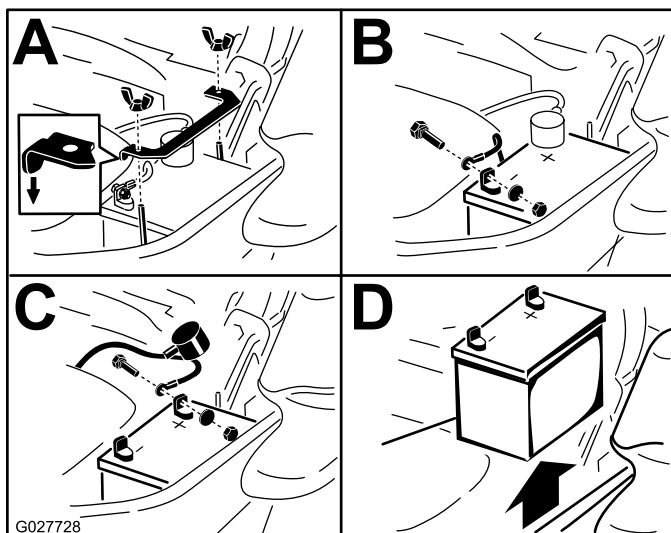

Figure 67
3. Remove the battery as shown in Figure 67.
**Note:** Position the battery in the tray with the terminal posts opposite from the hydraulic tank (Figure 67).